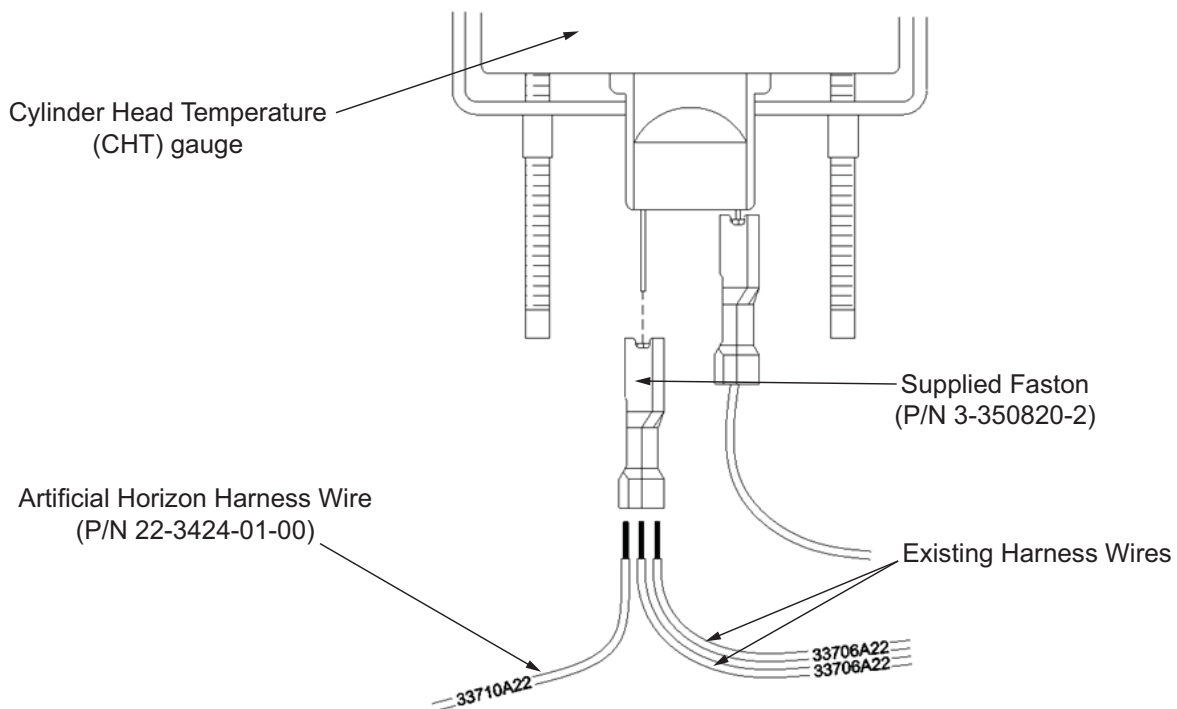

Figure 15
- 10.20 Cut off the existing faston contact from the Cylinder Head Temperature (CHT) gauge lighting wires (33706A22). Crimp 33710A22 wire with the existing CHT gauge lighting wires using the supplied faston contact. Refer to Figure 15.